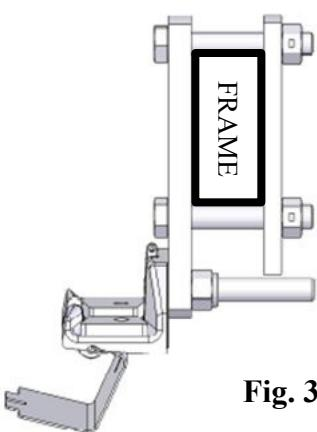

Fig. 3
- Slide frame bracket assembly over the trailer frame. Frame brackets have multiple mounting holes for various frame heights. Insert the second 5/8" bolt through the highest hole not obstructed by the bottom of the frame. Install 5/8" lock nuts (S) and hand tighten (See Fig. 3).